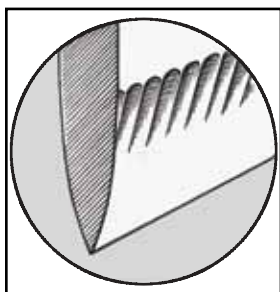

Figure 9. A larger polished facet adjacent to edge is ideal for gourmet preparations.
Where the finest and smoothest cuts are preferred in order to prepare smooth unmarked sections of fruits or vegetables, sharpen in Stage 2 (or 1 & 2 as described above) and make extra pulls through Stage 3. Three (3) or more pairs of pulls with each pull alternating in the left and right slots of Stage 3 will refine the third facet and create remarkably smooth and sharp edges, (Figure 9) ideal for the gourmet chef.